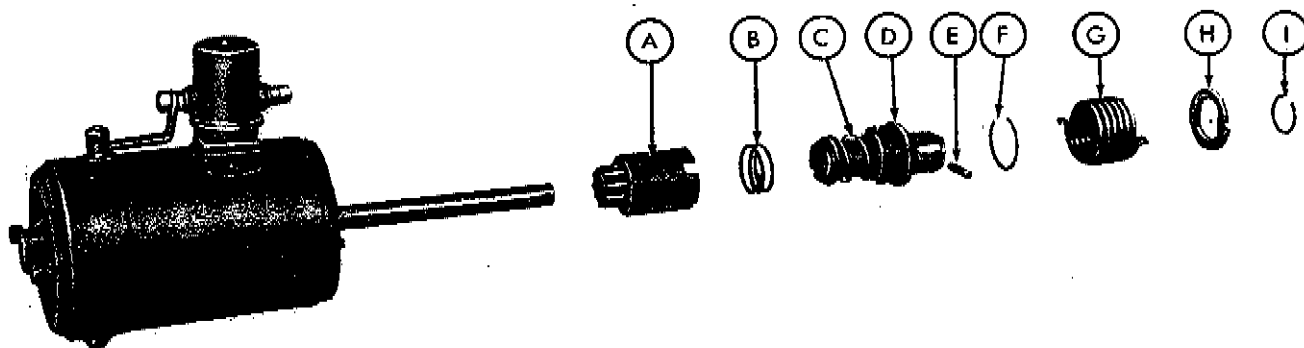

Fig. 2
Step 1—Remove the lock spring (I-Figure 2).
Step 2—Remove the starter spring anchor plate (H-Figure 2).
Step 3—Remove the bendix spring (G-Figure 2).
Step 4—Remove the spring clip (F-Figure 2), and the starter spring anchor plate (D-Figure 2).
Step 5—Remove the pin (E-Figure 2) that secures the bendix assembly to the shaft.
Step 6—Remove the screw and shaft assembly (C-Figure 2).
Step 7—Remove the starter drive meshing spring (B-Figure 2).
Step 8—Remove the pinion and barrel assembly (A-Figure 2).